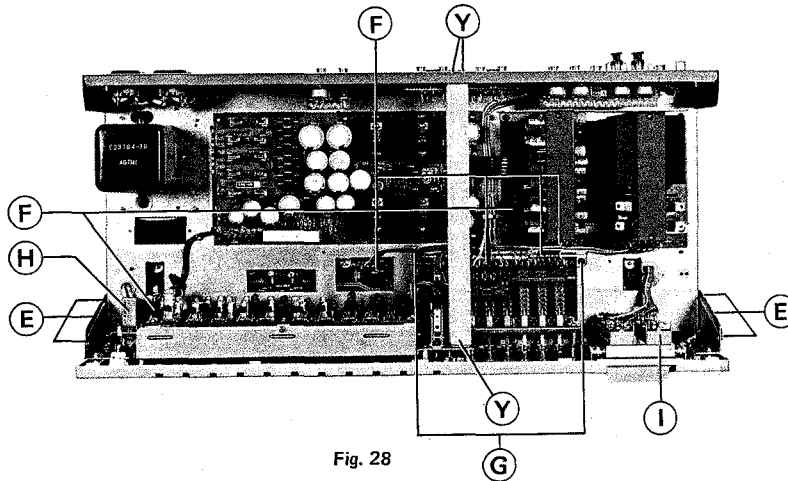

Fig. 28
- 2) Remove 3 screws (Y) indicated on Fig. 28 and remove Bracket.
- 3) Remove 6 screws (E) indicated on Fig. 28 & 30.
- 4) Remove 6 connectors (F) indicated on Fig. 28.
- 5) Remove 2 screws (G) indicated on Fig. 28, then Front Panel Ass'y will be removable.